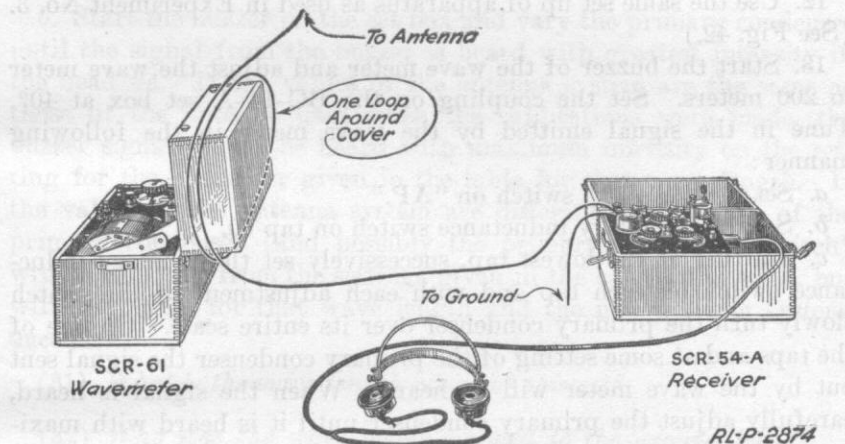
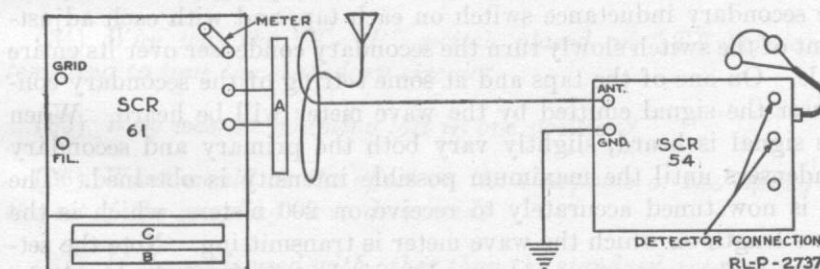

Fig. 42.—Method of coupling the SCR-61 wave meter to the primary circuit of the SCR-54-A receiver.
Fig. 43.—Schematic diagram of coupling arrangement as in Fig. 42.
7. Wind a complete turn of the antenna lead around the cover of the wave meter as shown in Fig. 42. This provides coupling between the antenna circuit and the inductance coil of the wave meter as shown in Fig. 43.
12. Use the same set up of apparatus as used in Experiment No. 3. (See Fig. 42.)